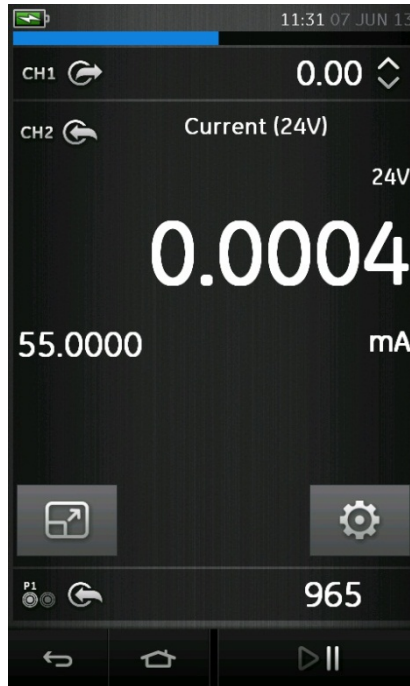

Figure 2-9 Calibrator Window - Expanded View
- Figure 2-9 displays an expanded view of the selected channel and minimizes the remaining channels.